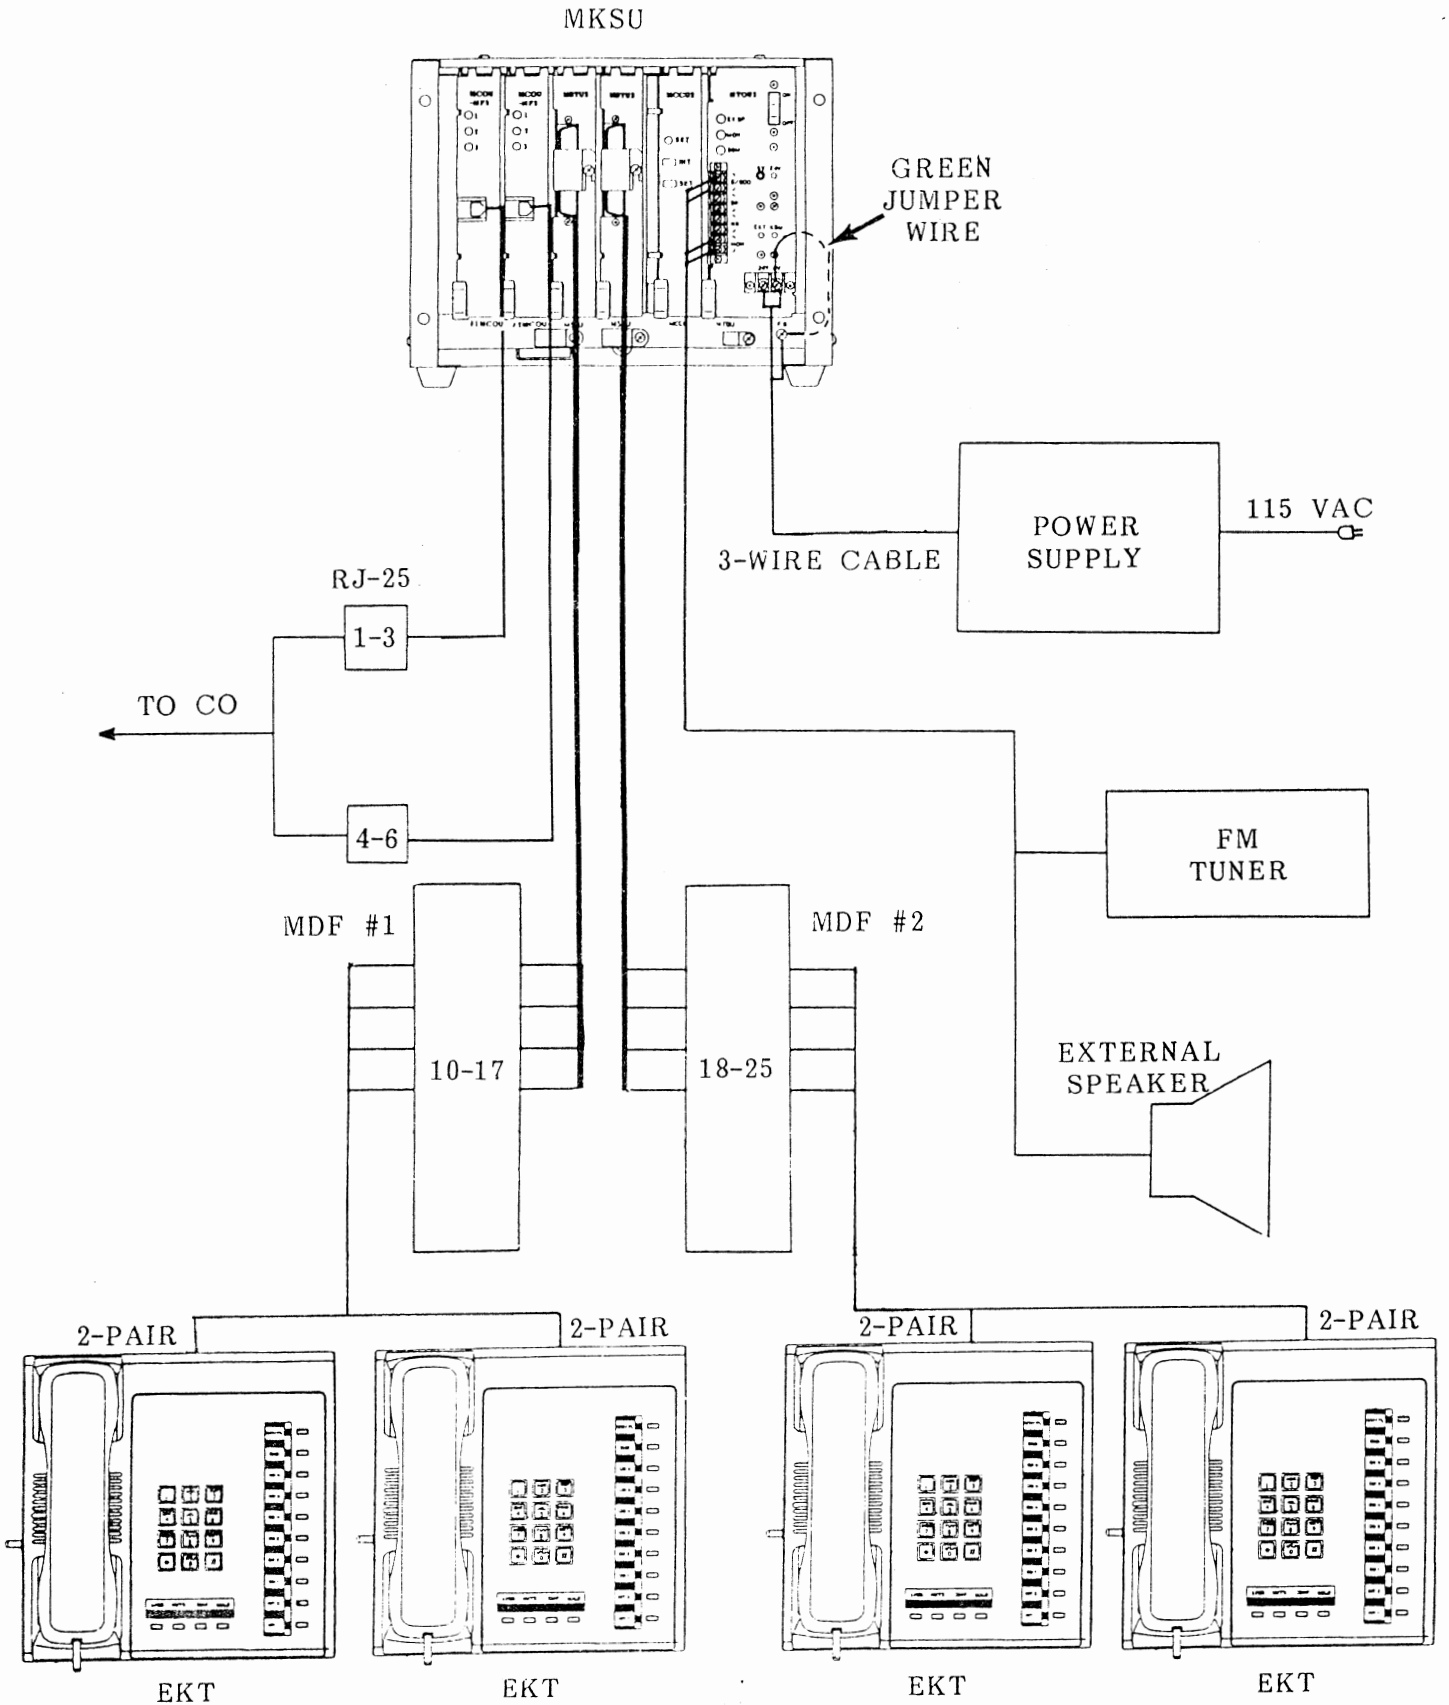

FIGURE 6
**02.01** The system (Figure 6) consists of an MKSU, power supply and up to 16 electronic key telephones (EKTs). All connections between the MKSU and the EKTs are made via a customer-provided main distribution frame (or MDF). Using modular line cords, the CO lines are then connected between the MCOU PCBs and the telephone